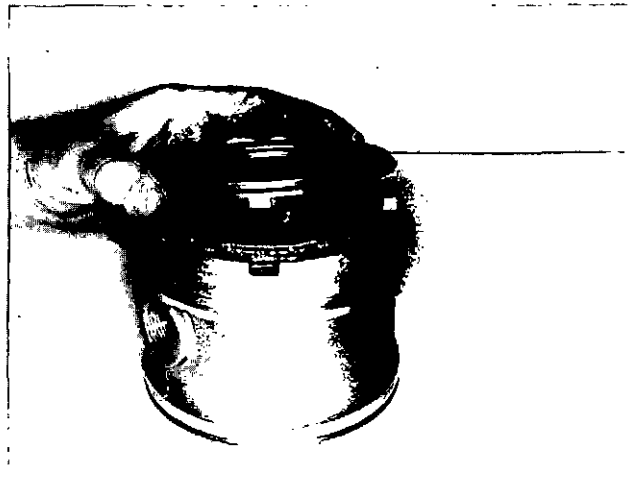

Fig. 3-10, (VTST35). Installing the heat shield
3. Install the heat shield on the bearing housing, Fig. 3-10.